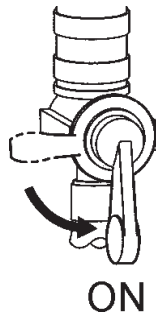

Figure 11. Engine Fuel Valve Lever (ON Position)
1. Place the engine **fuel valve lever** (Figure 11) in the "ON" position.